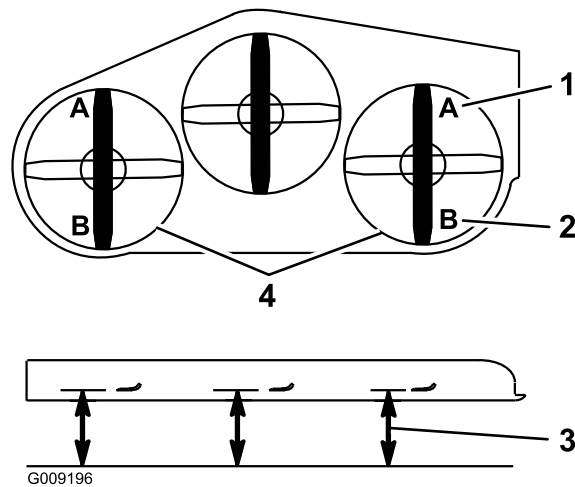

Figure 87
Note: The measurement should read 7.6 mm (3 inches) as shown in Figure 87.
15. On both sides of the deck, measure from the level surface to the back tip of the blade (position B) as shown in Figure 87.